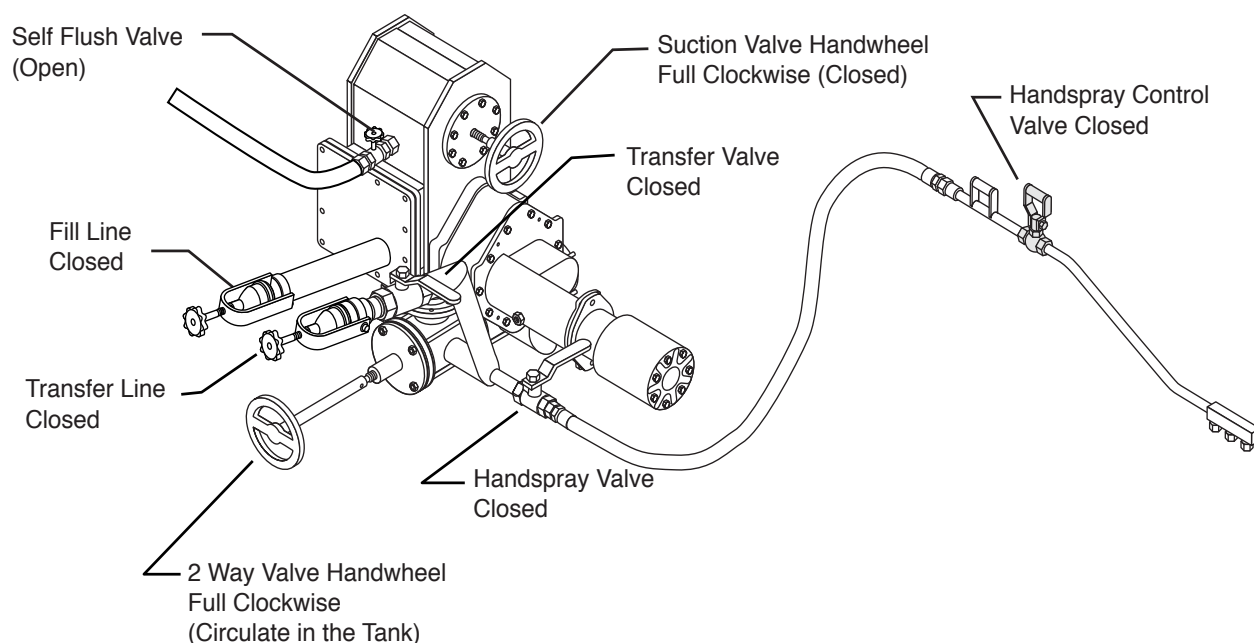

Figure 9. Valve Positions for Flushing Operations
2. Set all of the valve positions (see Figure 9).